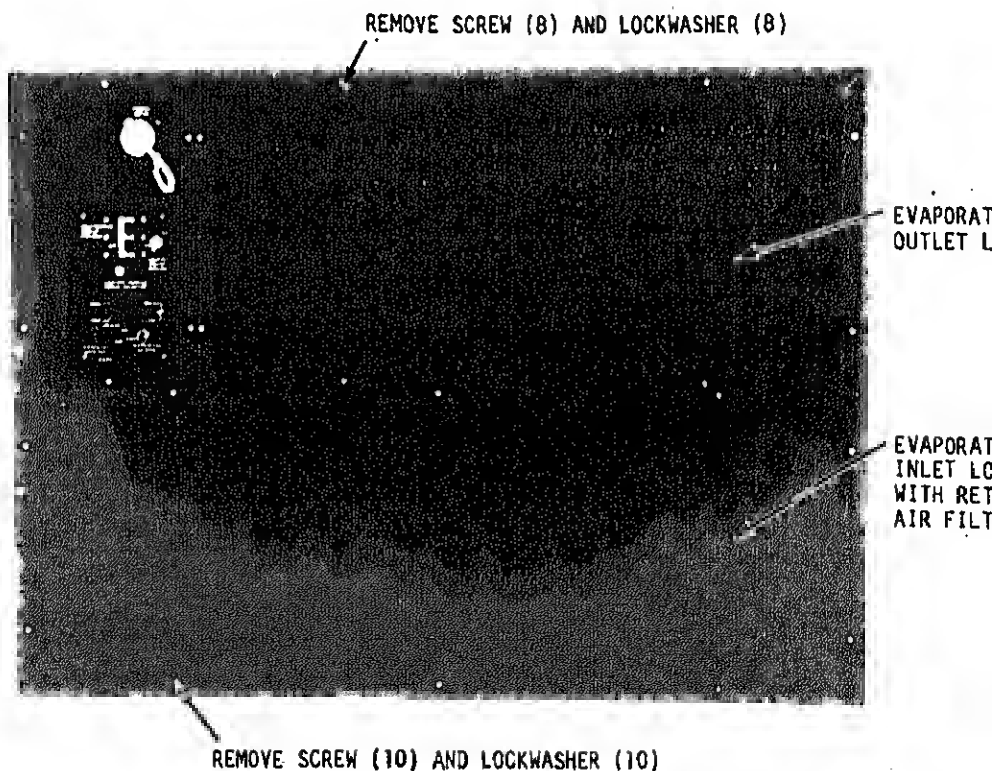

Figure 4-1. Evaporator inlet and outlet louvers, removal and installation.
(1) Refer to figure 4-1 and remove the evaporator air inlet louver.
(2) Refer to figure 4-1 and install evaporator inlet louver.
external coil surfaces. May avoid internal clogging. Clean external surfaces with a softbristled brush or a plastic fin comb. The plastic fin comb can be used to straighten bent coil fins. Clean internally-clogged coils with compressed air. Always direct the compressed air stream straight into coils, to avoid bending fins, and in the opposite direction of normal air flow. Remove covers and louvers (figure 4-1, 4-3 and 4-4) to service coils.